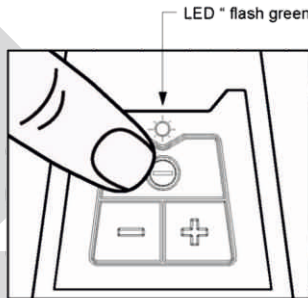

figure 2
2. Press the power on/off button “ \ominus ” on the button plate to switch on the sander. The LED indicator shows “ flash green ” color after sander being switched on. - see figure 2.